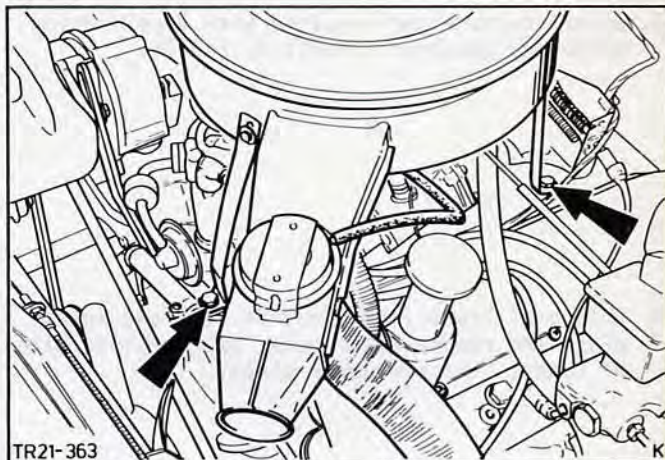

Fig.73. Remove air cleaner.
2. Remove hot air hose from preheater (1 screw), detach vacuum hose and remove air cleaner with the brackets (3 bolts), Fig.73.